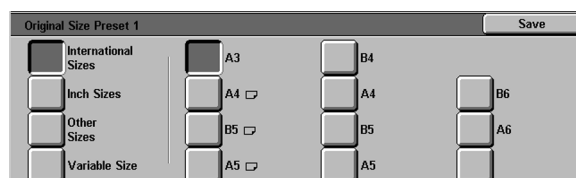

Figure 68: Original Size Presets screen (with International Sizes option selected)
- Touch the **International Sizes** button and touch one of the displayed international sizes (Figure 68)